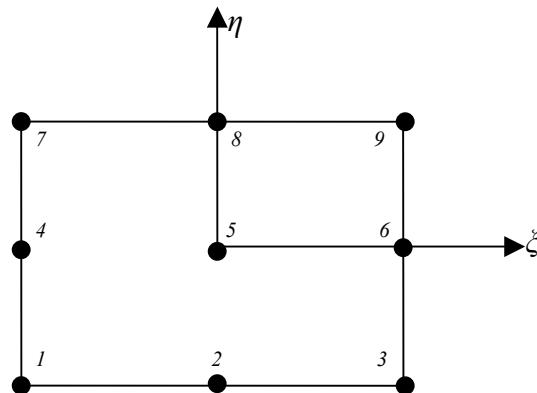

Figure 2. Nine-node quadratic element.
Q.2. Derive and plot the geometric variation, of the Lagrange interpolation functions at nodes 1, 2 and 5 of the nine-node quadratic element shown in Fig. 2.